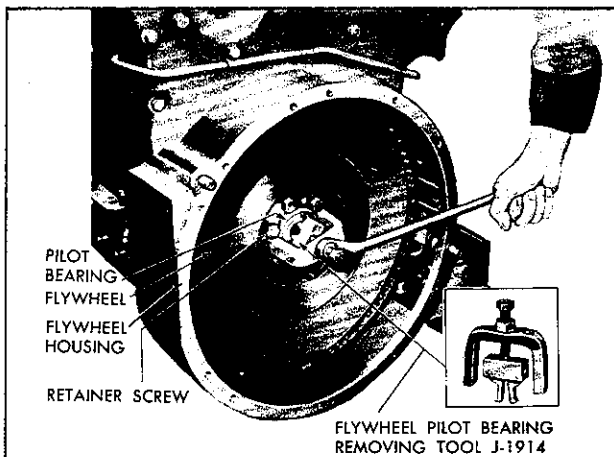

Fig. 6—Removing Clutch Pilot Bearing from Flywheel with Tool J-1914.
**Removing Clutch Pilot Bearing**—Refer to Fig. 6, and remove clutch pilot bearing from flywheel with tool J-1914 as follows: